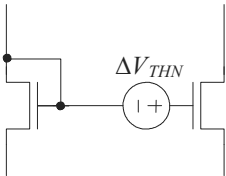

Figure 20.53 Modeling an offset voltage in SPICE (or for hand calculations).
20.4 A threshold voltage mismatch in SPICE can be modeled by adding a small voltage source in series with the gate of one of the MOSFETs, as seen in Fig. 20.53. Show, using SPICE, that Eq. (20.8) is valid.